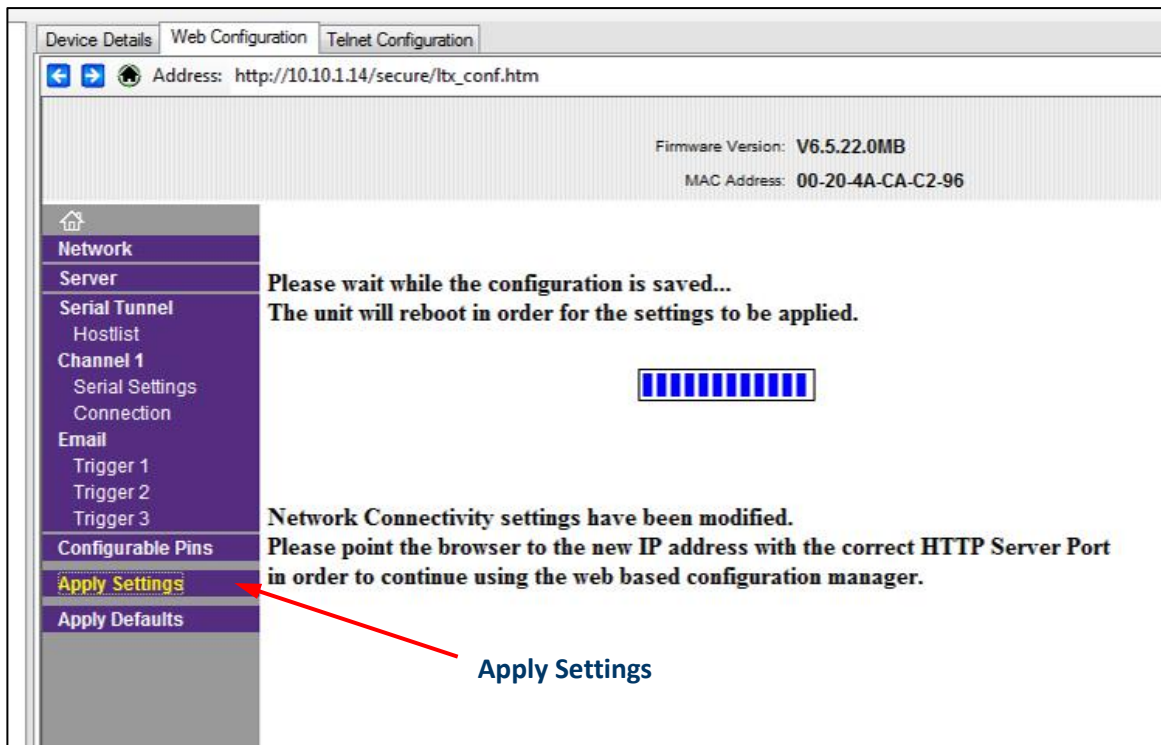

Figure 4-12 Apply Settings
7. Select Apply Settings link to save the setting to the RS485 Ethernet Adapter as shown in Figure 4-12.